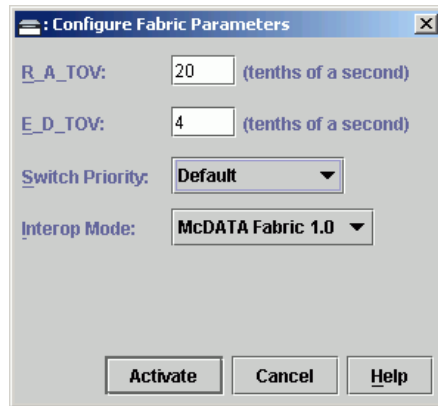

Figure 3-35 Configure Fabric Parameters Dialog Box
- b. At the *Hardware View* (Figure 3-10 on page 3-20), click *Configure* and select *Operating Parameters* and *Fabric Parameters*. The *Configure Fabric Parameters* dialog box displays (Figure 3-35).